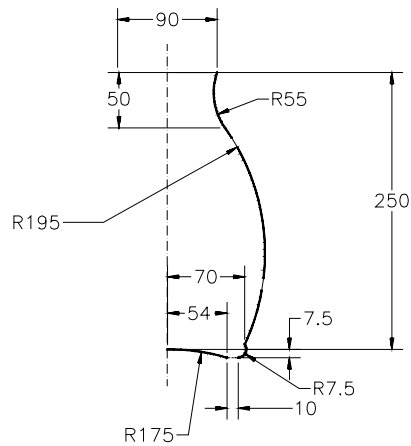

Figure 9-51 The axis and profile to be revolved
- Draw the sketch to create the revolve surface, refer to Figure 9-51.
3. Next, draw the sketch, as shown in Figure 9-51 and exit the **Sketcher** workbench